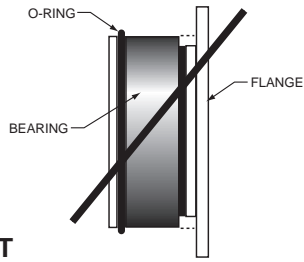

Figure 1. Press Fit Bearing Configuration
- Slide the rotor registration adapter (18) onto the axle register on the axle flange with the smaller O.D. facing toward the rotor/hat (3). Align the correct hole pattern in the hat with the stud pattern on the axle flange. **NOTE:** Some OEM and aftermarket axles come with stud sizes larger than 0.50" diameter. Verify stud size and have a qualified machine shop drill the hats to the correct size, if necessary. Slide the hat/rotor assembly (3 and 4) over the wheel studs covering the bracket kit assembly (1) and against the axle flange face. Check to be sure the hat seats squarely against the hub. Install a couple of lug nuts (finger tighten) to keep the rotor/hat assembly in place while continuing with the installation.
- **NOTE:** Please reference the caution statement at the beginning of the assembly instructions. The caliper mounting bracket assembly (7) should be installed first with clean, dry threads on the mounting bolts (8). Install the bracket from the rear side of the bracket kit assembly (1) by sliding bolt (8) through flat washer (10), bracket (7), shim washer (11) and finally through the spacer (12), see Figure 1. **NOTE:** End of bolt should not exceed inside face of insert. The bracket must tighten squarely against the back side of the bracket kit assembly (1). Inspect for interference from casting irregularities, machining ridges, burrs, etc. Use one thin shim (11) between the bracket (7) and spacer (12) during initial trial fitting.
- Install one washer (17) over each pre-installed stud (16) on the radial mount bracket (7). Slide the caliper (13) in place over the studs and rotor, then install the washer (15) and lock nut (14) to hold the caliper in place. Snug the lock nuts (14) and check that the rotor (4) is centered in the caliper (13). Add or subtract .015" shims (11) as necessary between the caliper mounting bracket (7) and the spacer (12) to center the caliper (13).
- Remove the caliper center bridge pad retainer bolt, nut, and tube from the caliper. Slide the brake pads (9) into place. They should install easily without interference. Check that the outside radius of the brake pad is aligned with the outside diameter radius of the rotor face. Add or subtract shims (17) between the caliper (13) and mount bracket (7) to gain the proper alignment. Reinstall the center bridge pad retainer tube, bolt, and locknut. The locknut should be snug without play in the bolt or tube. Be cautious not to over tighten.
- Adjust the parking brake shoes outward (using a drum shoe adjustment tool available at your local auto parts store) while spinning the hat (3) until a slight drag is felt against the hat/drum. Remove the lug nuts that were holding the hat/rotor in place. Install the wheel and lug nuts. Check to see that the wheel rotates freely without interference.
- Once all clearances have been checked, remove the wheel, caliper, hat/rotor from the bracket kit assembly (1). Secure the caliper mounting bracket (7) to the bracket kit assembly (1) using red *Loctite*® 271. Torque bolts (8) to 180 in-lb. Reinstall the hat/rotor assembly and again use lug nuts to hold it in place. Lubricate caliper mounting studs and nuts with lightweight oil, reinstall the caliper, torque the caliper nuts (14) to 30 ft-lb.
- **NOTE:** Clevis and cable kits which attach to the parking brake assembly are not included in the Wilwood parking brake kit. Wilwood offers a generic style parking brake cable kit, P/N 330-9371 for this application which can be ordered separately from your local Wilwood dealer or by calling Wilwood customer service at (805) 388-1188.